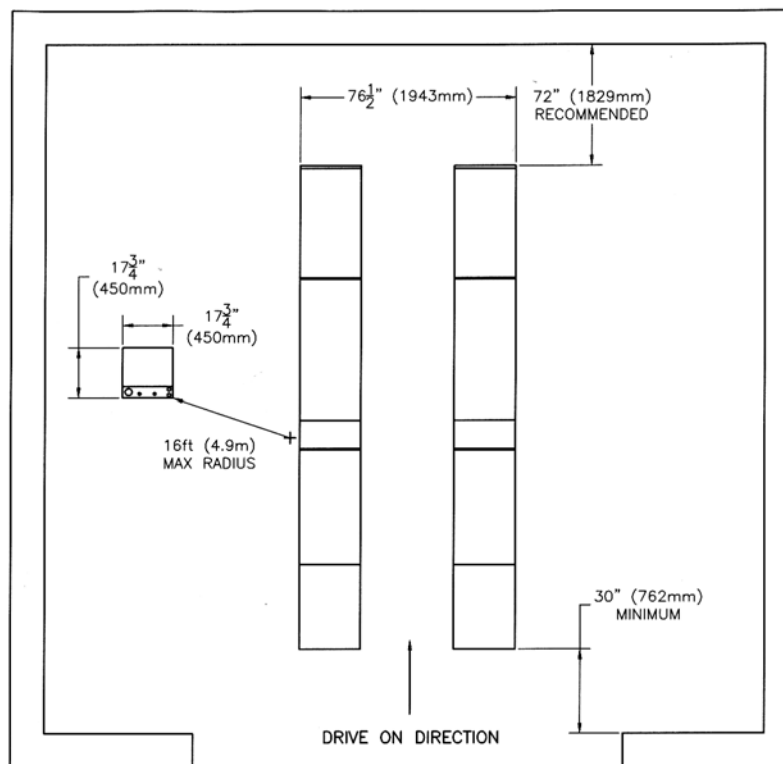

Figure 2 - Typical Bay Layout
2. At the site, position both base frames with the runways on the foundation according to the drive-on direction of the lift (see Figure 2).
3. Align the runways parallel to each other and in the drive-on direction (see Figure 2).